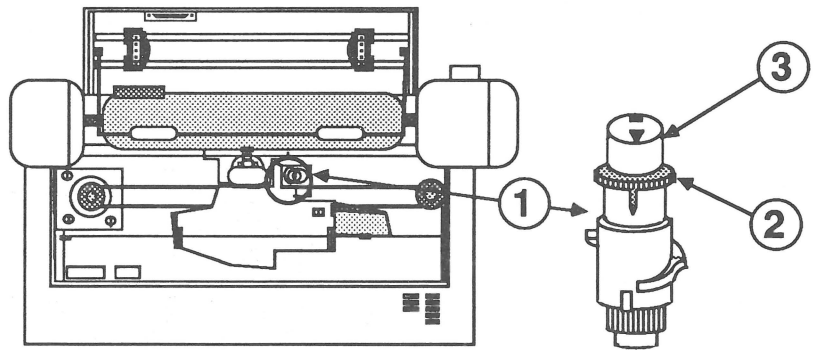
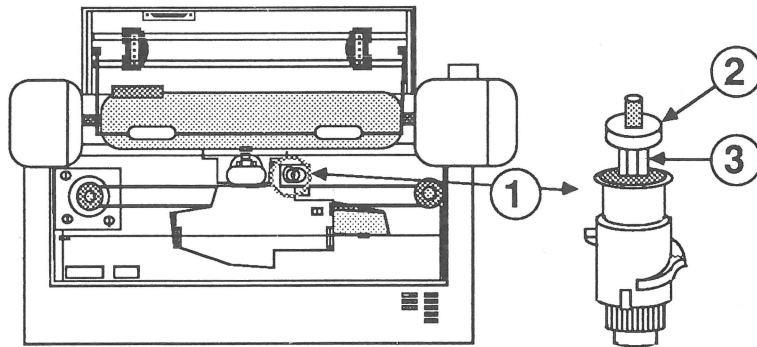

FIGURE 1
FIGURE 2
There are three possible versions of the ribbon assembly currently in circulation: two newer assemblies and one older assembly. If you have an ImageWriter II with a serial number of 244451 or above, you have one of the newer assemblies and will have the color ribbon assembly shown in Figure 1. One of the assemblies is adjustable; the other isn't. To find out which assembly you have, try following the "New Assembly" procedure. If you cannot turn the top of the assembly (do not force it or the red locking ring), then you have a nonadjustable version of the assembly and you must install a new assembly. If the top assembly turns, then follow the rest of the procedure for the new assembly. The older version is shown in Figure 2. For this version, follow the "Old Assembly" procedure. Before you begin either procedure, perform the steps below:
2. Locate the color ribbon assembly (Figure 1, #1).
Note: Before you begin the adjustment, push down the red locking ring (Figure 1, #2), and then hold it while making the adjustment. The locking ring prevents the adjustment from changing once it is set.
- b) Grasp the top of the assembly—the part that has the arrow imprinted on it (Figure 1, #3)—and turn the top in the correct direction two full turns. (Two turns are recommended to start with; it is possible that more or fewer than two turns will be needed to rectify the condition.)
1. Locate the color ribbon assembly (Figure 2, #1).
2. Loosen the lock nut (Figure 2, #2), and turn the adjustment nut (Figure 2, #3) one-half turn. To determine which way to turn the adjustment nut, examine the self-test printout. The first line should be black.